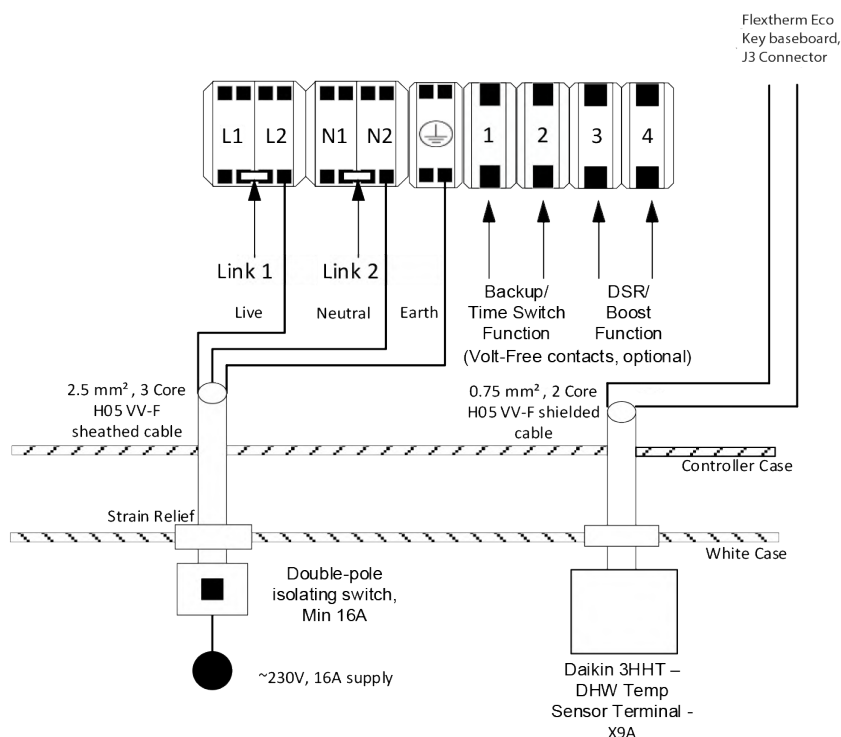

Figure 4: Flextherm Eco G2 D with Daikin HP-Key
- Flextherm Eco G2 D with the «Daikin HP-key» & «Daikin HP+PV-key» (Flextherm Eco G2 D manual - Section 6.4.2 for wiring instructions & Figures 4 & 5 below)
Using the Daikin Tank sensor part (C2294) supplied in optional kit A1135, the cable (C2294) will act as a hot water heating tank sensor from the Flextherm Eco key baseboard - terminal J3 into the Heat Pump Interface controller PCB Terminal - (DHW Tank sensor - X9A) terminal (please refer to HP installation manual). Please run the wire into the heat battery appliance via the appliance case cabling grommets and then into the control box housing through the hole available. Secure the cables in terminals J3 on the Flextherm Eco Board, please see Figures 4 & 5 below for reference.